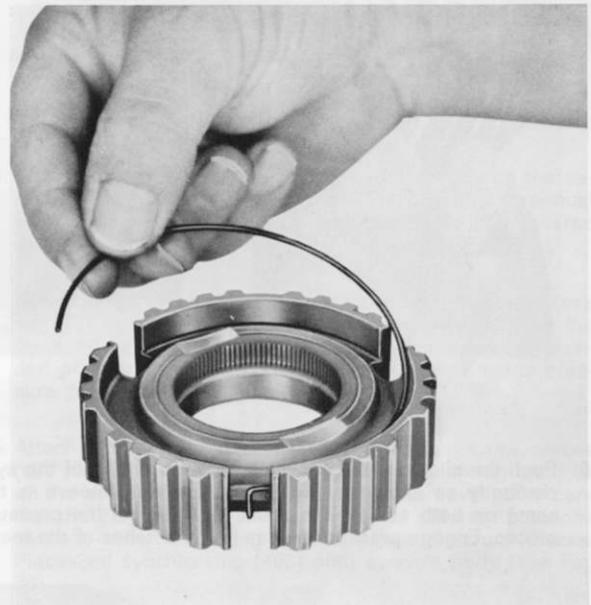
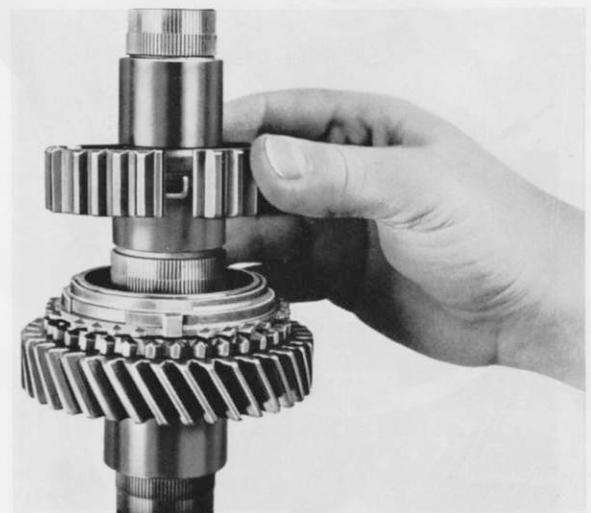
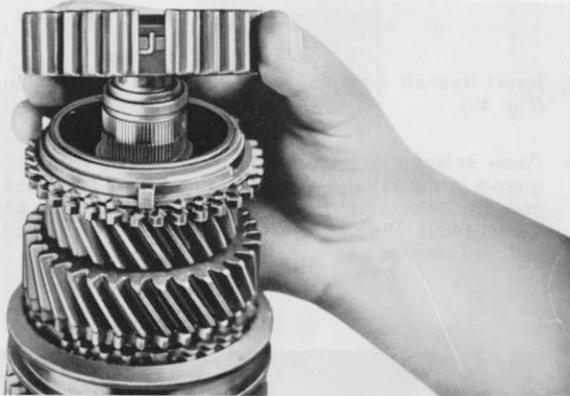

Fig. 26
Fig. 27
Fig. 33
3. Place a synchro spring (403) onto the side of the 2nd and 3rd gear synchro body (414) which is first pushed onto the mainshaft i.e. on the side which has the splining and attach the squared off end into the cross slot (Fig. 26). Heat the preassembled 2nd and 3rd gear synchro body up to 80° C and with the splines lined up into the position marked during disassembly, press onto mainshaft (Fig. 27). Only assemble the synchro body with tool .6. or with a suitable tube which fits over the hub. Make sure that the lugs of the synchro rings (402) lie in the recess of the synchro body. Spring on the circlip (413); this must sit tightly in the radial groove and is therefore available in thicknesses of 1,8; 1,9 and 2,00 mm. Use tool .7. for tapping the circlip into position.
9. Place a synchro spring (403) onto the side of the synchro-body (405) with the longer hub and attach squared off end to the cross slot (see Fig. 26). Heat 4th and 5th gear synchrobody to 80°C and press it with the longer hub first onto mainshaft (Fig. 33). Use tool .6. and note the marked position when pressing on and insert the lugs of the synchro rings into the notches of the synchrobody. Select a circlip (401) thick enough to sit tightly in the radial groove. The ring is available in thicknesses of 1,8; 1,9 and 2,0. Attach circlip and with tool .7. push into groove.
12. Put the second synchro ring (402) on the cone of the input shaft (213) (see Fig. 33). Place the roller cage bearing into the spigot bearing bore of the input shaft. Push the input shaft on the spigot of the mainshaft.